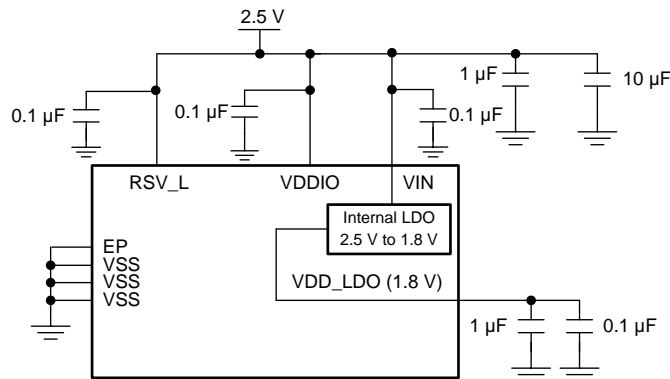

图 24. Single 2.5 V Supply Mode - Compatible with LMH1219
- Single 2.5 V Supply Mode:** This mode offers ease of use and pin compatibility with the LMH1219 (11.88 Gbps Ultra-HD Adaptive Cable Equalizer with Integrated Reclocker). The internal circuitry receives power from the on-chip 1.8 V regulator. In this mode, 2.5 V is applied to VIN, VDDIO, and RSV_L. This mode supports SPI or SMBus serial interface. See 图 24 for more details.